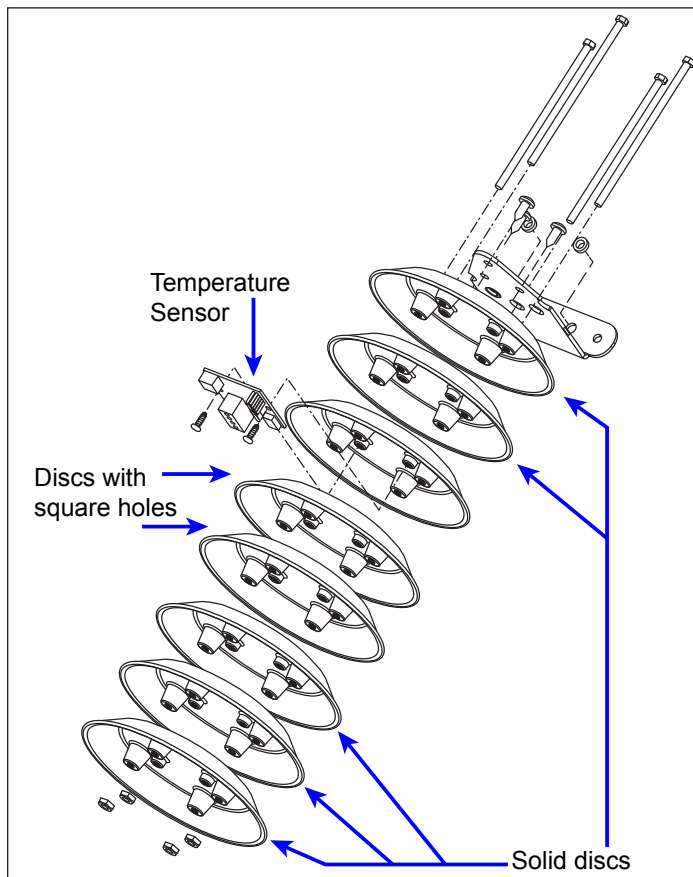

Figure 10: Temperature Sensor Housing Disassembled
1. Open the temperature sensor housing by removing the four nuts from the bottom and then removing the five bottom disks. Refer to **Figure 10** for details on sensor housing disassembly.
3. Open the temperature sensor housing by removing the four nuts from the bottom and then removing the five bottom disks. Refer to **Figure 10** for details on sensor housing disassembly.
1. Open the temperature sensor housing by removing the four nuts from the bottom, and removing the five bottom disks. Refer to **Figure 10** for details on sensor housing disassembly.